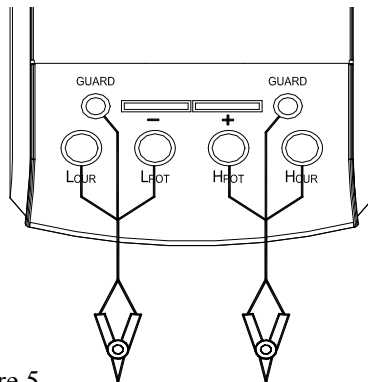

Figure 5
- b When using $L_{CUR}/L_{POT}/H_{POT}/H_{CUR}$ terminals, insert the black and red testing lines with alligator clip into the " L_{CUR} ", " L_{POT} " terminal and " H_{CUR} ", " H_{POT} " terminal respectively.(shown in figure 5).